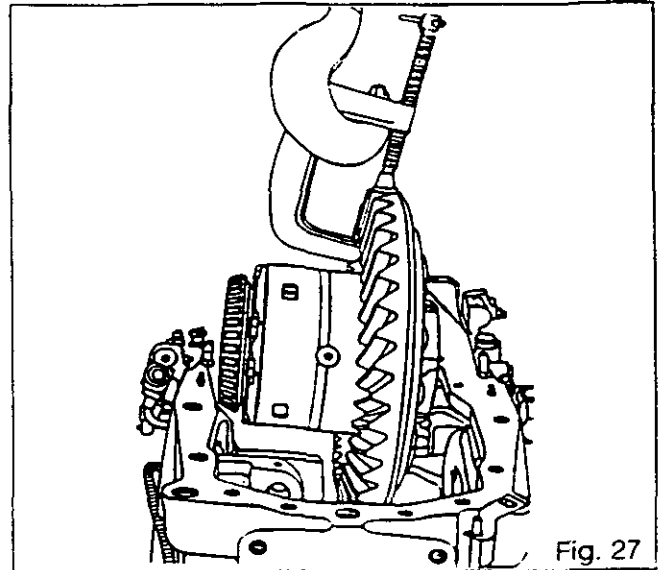
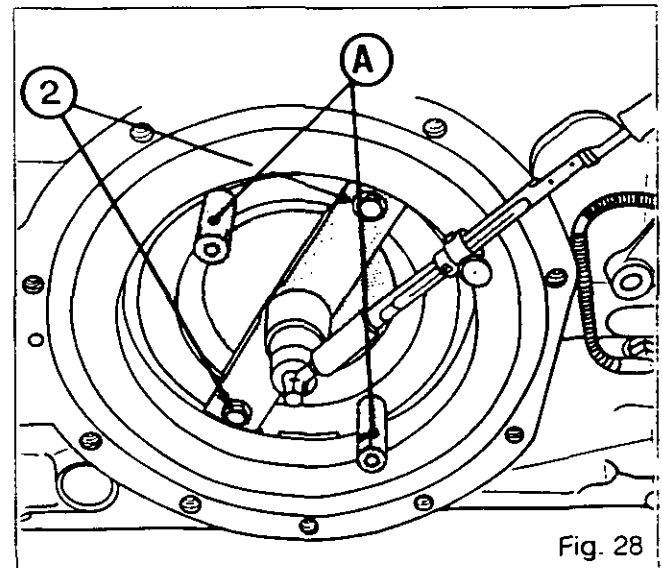

Fig. 27
Fig. 28
90. Place the differential assembly in the housing (Fig. 27).
91. Screw in two guide studs in opposite positions and mount the right hand carrier (25).
93. Remove the cup (14) and the deflector [13] of the left hand carrier(9). Place the cup on the bearing cone (17).
94. Mount tool 3376847 M91 in the housing using two screws (2) tightened to a torque of 85 - 130 Nm (Fig. 28).
95. Tighten the central screw of the tool to a torque of 10 Nm (Fig. 28).
96. Fit and tighten calibrated spacers (A) (Fig. 28) in the two other holes in the housing.